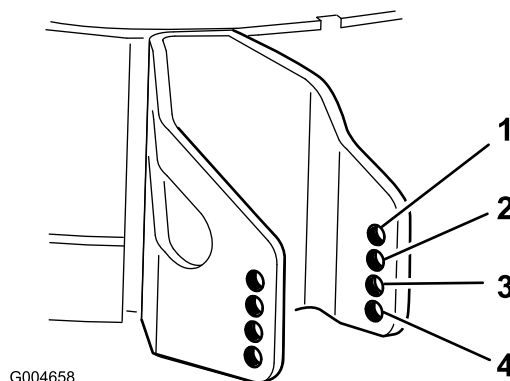

Figure 27
- Select a hole so the anti-scalp roller is positioned to the nearest corresponding height-of-cut desired (Figure 27).